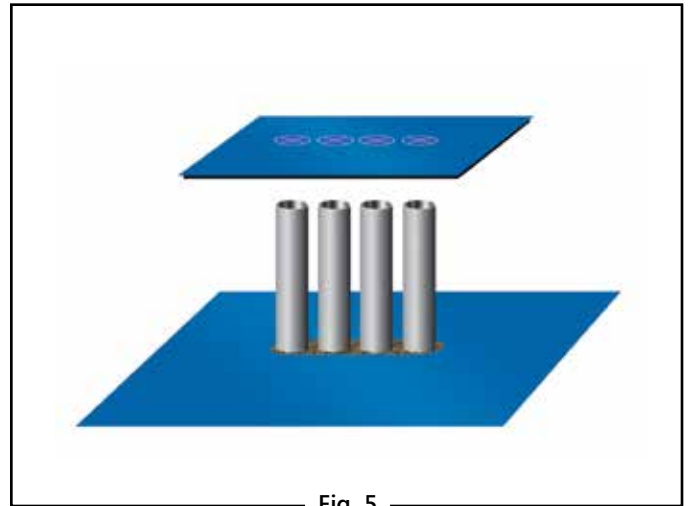

Fig. 5
- A) Cut a patch large enough to overlap 6" in all directions (Fig. 5) of penetrations.